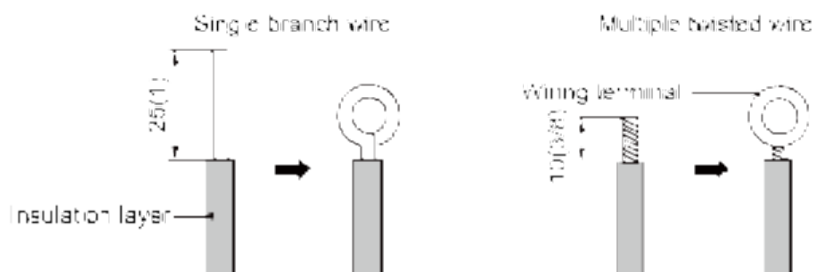

Fig.4.22
- (1) For solid core wiring (Fig.4.22).